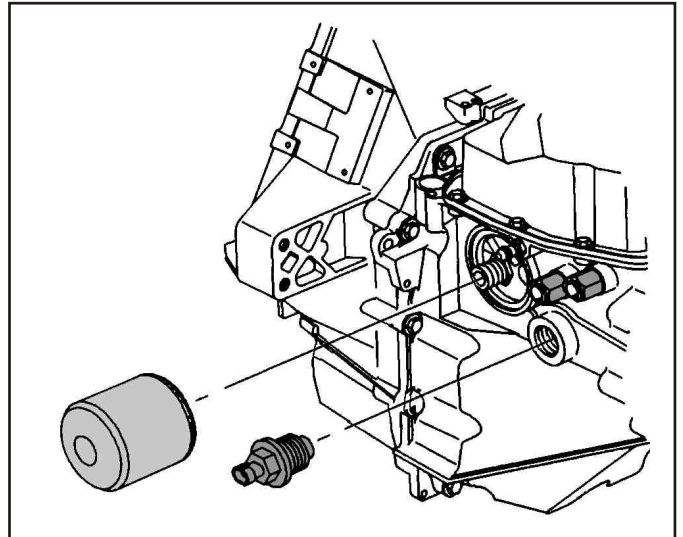

Figure 225
64. Using transmission fluid, lubricate the filter seal. Spin the filter on until the seal makes contact to the case and tighten one complete turn (See Figure 225).
- 66. Install the input shaft speed sensor (See Figure 225) and torque to 26 N•m (19 ft. lbs).